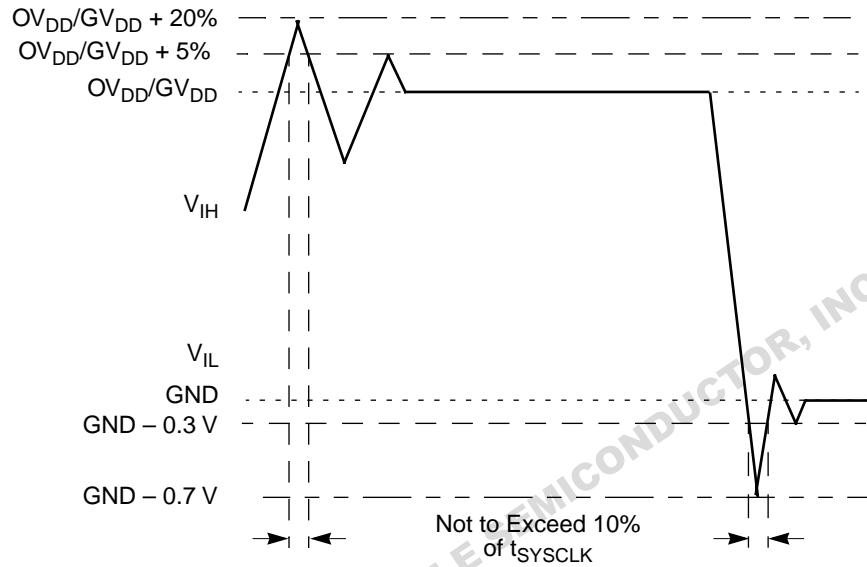

Figure 2. Overshoot/Undershoot Voltage
- $V_{in}$  may overshoot/undershoot to a voltage and for a maximum duration as shown in Figure 2.
Figure 2 shows the overshoot and undershoot voltage on the MPC7450.